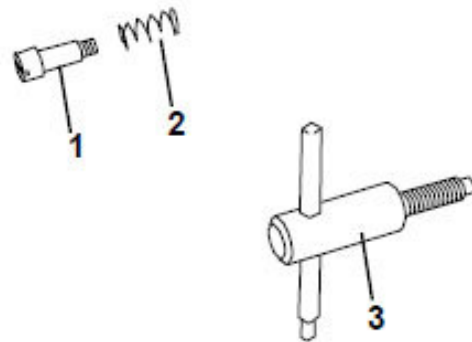

Fig. 5: Locking lever
The bolt (item 1, Fig. 5) is screwed through the spring (item 2, Fig. 5) and into the clamping lever (item 3, Fig. 5). If a locking lever comes loose or has fallen apart in transit, reassemble and screw into position.